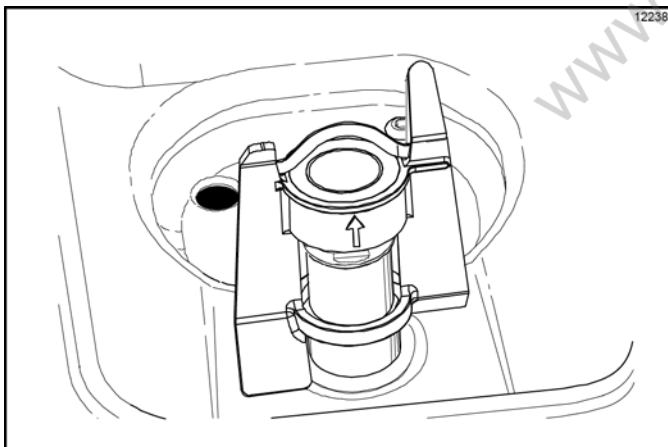

Figure 6-60
**Important!** Fill the mix hopper with mix up to the fill level indicator on the agitator paddle. (See Figure 6-60.)